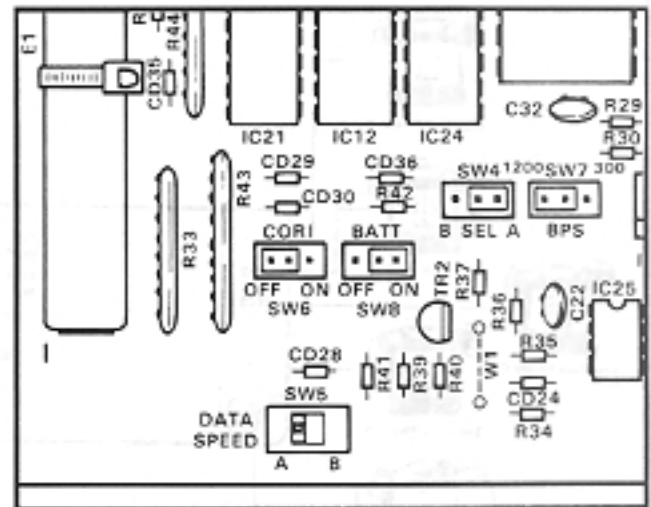

FIGURE 36—HSMB STRAPS and SWITCHES
switches (Figure 36) and perform the following:
- 1) Verify that the battery is connected on the HSMB (Figure 36).